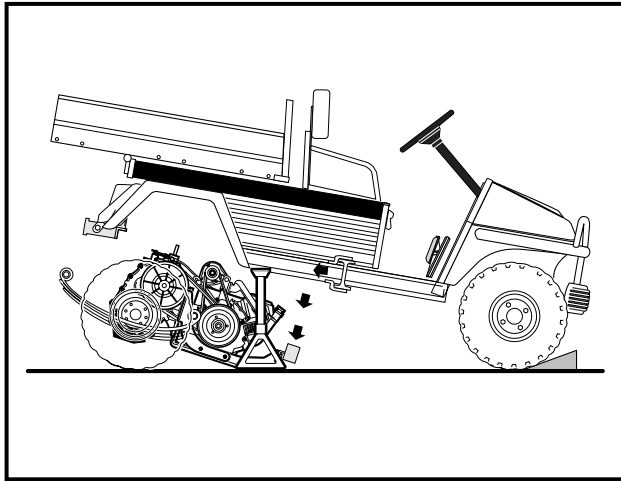

Figure 16-25 Snubber
12. Carefully lift the snubber out of the snubber bracket in the vehicle frame and lower it to the floor (**Figure 16-25, Page 16-12**). The powertrain should be completely disconnected from the vehicle and resting on the floor.